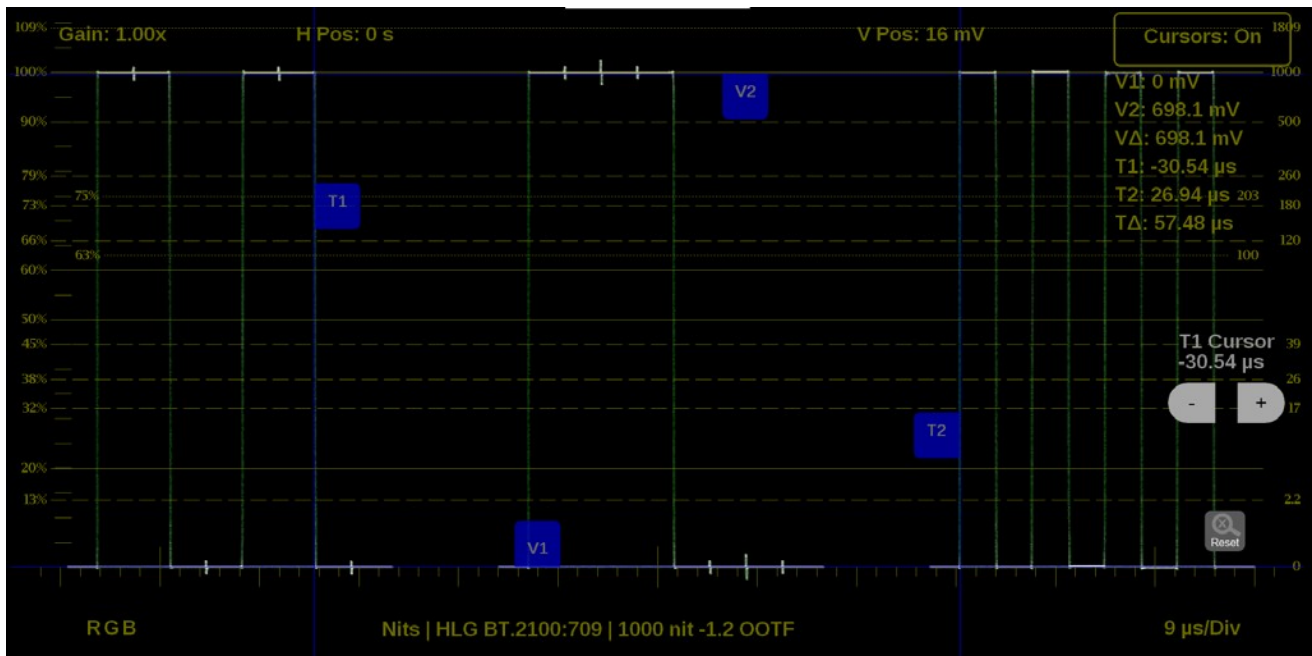

Figure 95: Waveform on-screen tools – time and voltage cursor values and deltas
1. Select the **Cursors** button to show the time and voltage cursor options. (See Figure 95.)